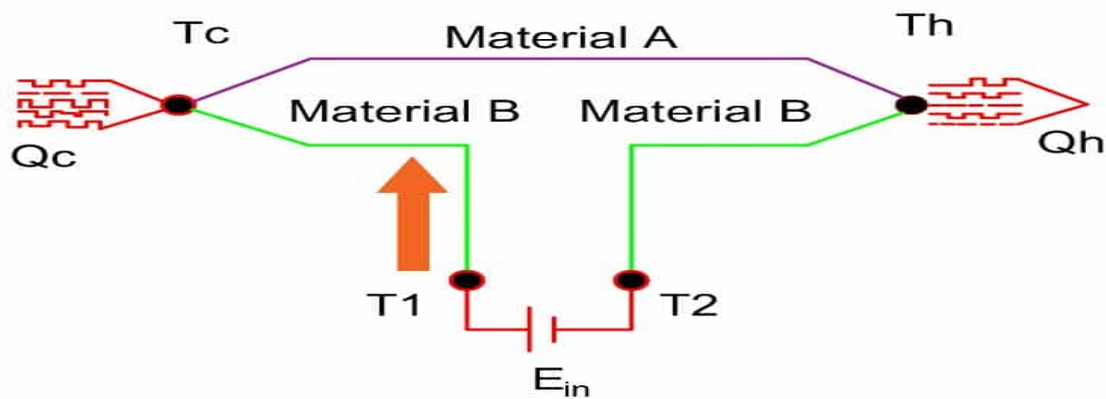

Figure 2. Demonstration of Peltier Effect
On application of a voltage between the terminals T1 and T2 as depicted in Figure 2, an electrical current (I) flows in the circuit. As a result of current flows, a slight cooling effect takes place at junction Q_C and a slight heating effect occurs at junction Q_H. The reverse process happens by changing the direction of the current flow.